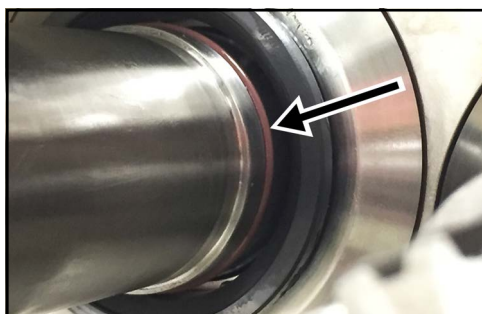

Figure 94 - Install shaft O-ring
9. If the seal has already been installed, lubricate the shaft O-ring, then slide the shaft O-ring over the shoulder in the shaft, and install it into the O-ring groove. See Figure 94. Repeat for the second shaft, then skip to “Seal cap assembly” on page 52.